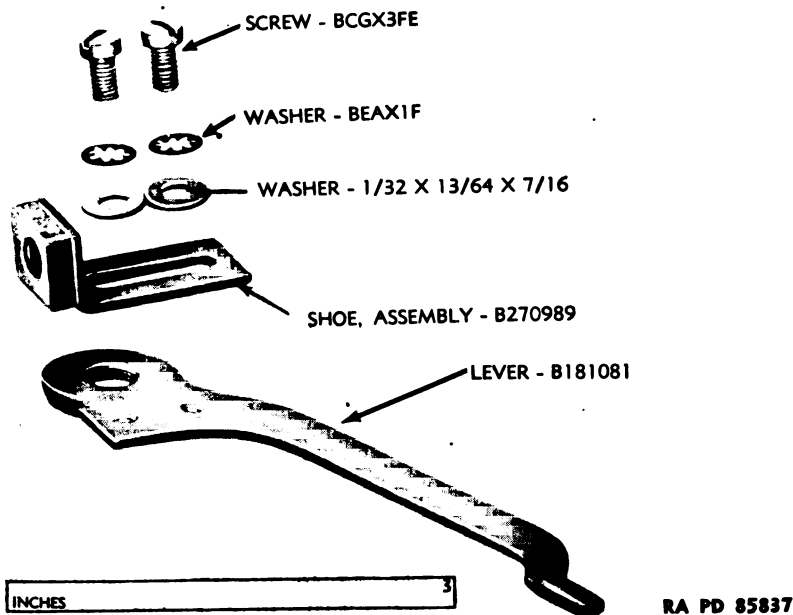

Figure 85 — Lever Assembly B269698 — Exploded View
b. If the brake does not stop the disk soon enough, loosen the two screws which hold the brake shoe to the arm (fig. 85) and move the shoe closer to the disk. It should not, of course, be set so close that it rubs on the disk when the current is on.